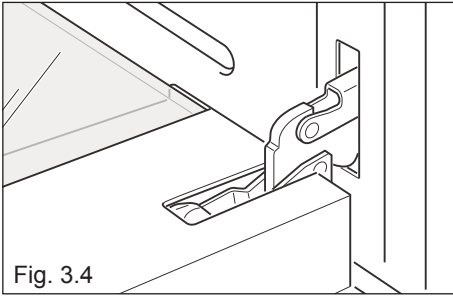

Fig. 3.4
1. Open the door to the full extent (fig. 3.4).